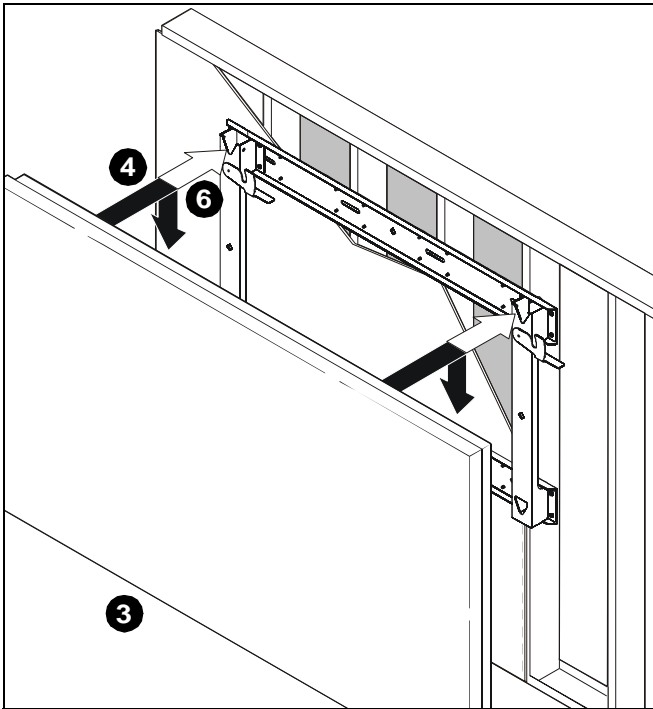

Figure 6
4. Align mounting buttons on display with teardrop mounting holes in mount. (See Figure 6)
5. Move display forward until recessed area of mounting buttons is positioned over lower area of teardrop mounting holes. (See Figure 6)
6. Lower display until recess area of mounting buttons is seated in lower area of teardrop mounting holes. (See Figure 6)